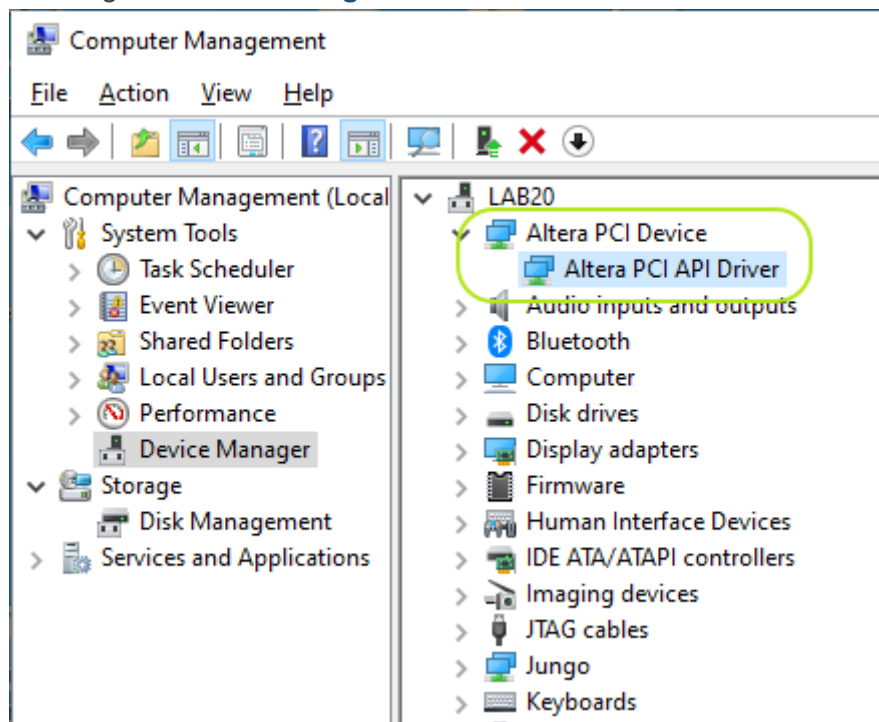

Figure 3-9 Screenshot for PCIe Driver
5. Make sure that Windows has detected the FPGA Board by checking the Windows Device Manager as shown in **Figure 3-9**.